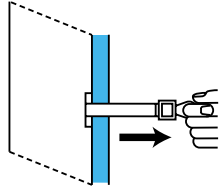

Fig. 4
- 8 With the plastic pull ring of the toggle bolt, pull the metal end of the toggle bolt firmly against the back of the metal stud (refer to Figure 4).